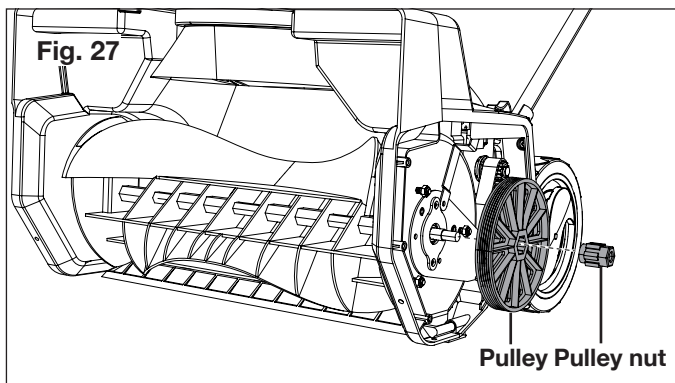

Fig. 27
- Secure the auger. Using an 18 mm hex socket, loosen the pulley nut and remove the pulley (Fig. 27).